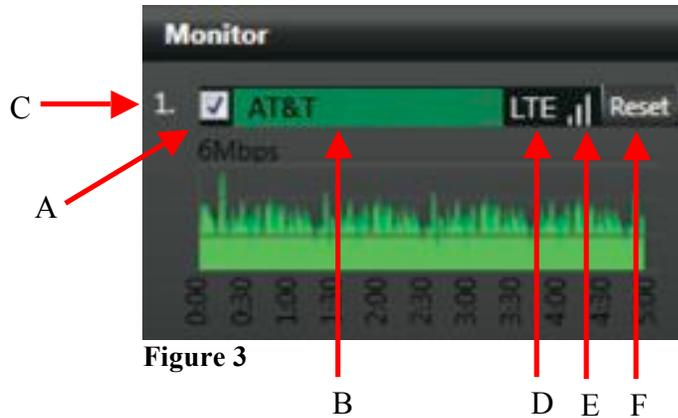

Figure 3
J	Datacard monitor panel: This monitor panel displays the current status of each data card. See Figure 3
The check boxes associated with each card's status bar enables or disables a particular datacard (**A**)(Figure 3). If unchecked, it will not be used to pass data. If checked on (default), it will be used. Individual read out panels show the carrier name (when available) of each active card (**B**). The slot number of each datacard is indicated in front of the carrier name (**C**). To retrieve the IP Address of a particular datacard, mouse over the name of that datacard. If no name is automatically provided and is displayed as <name>, you can input your own name. However, this will reset upon reboot. The color indicators displayed within the carrier name panel indicates the following status:
The connection mode (D) is next to the connection strength, which is indicated with three status bars (E)(Figure 3). If the bars are all gray, there is no connection. Three green bars indicate excellent connection strength.